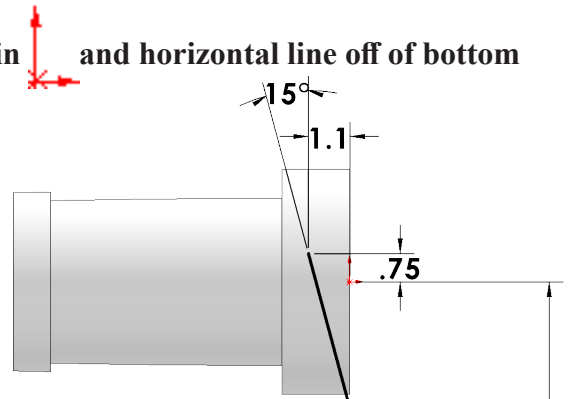

Fig. 15
Step 6. Add dimensions, **Fig. 15**.